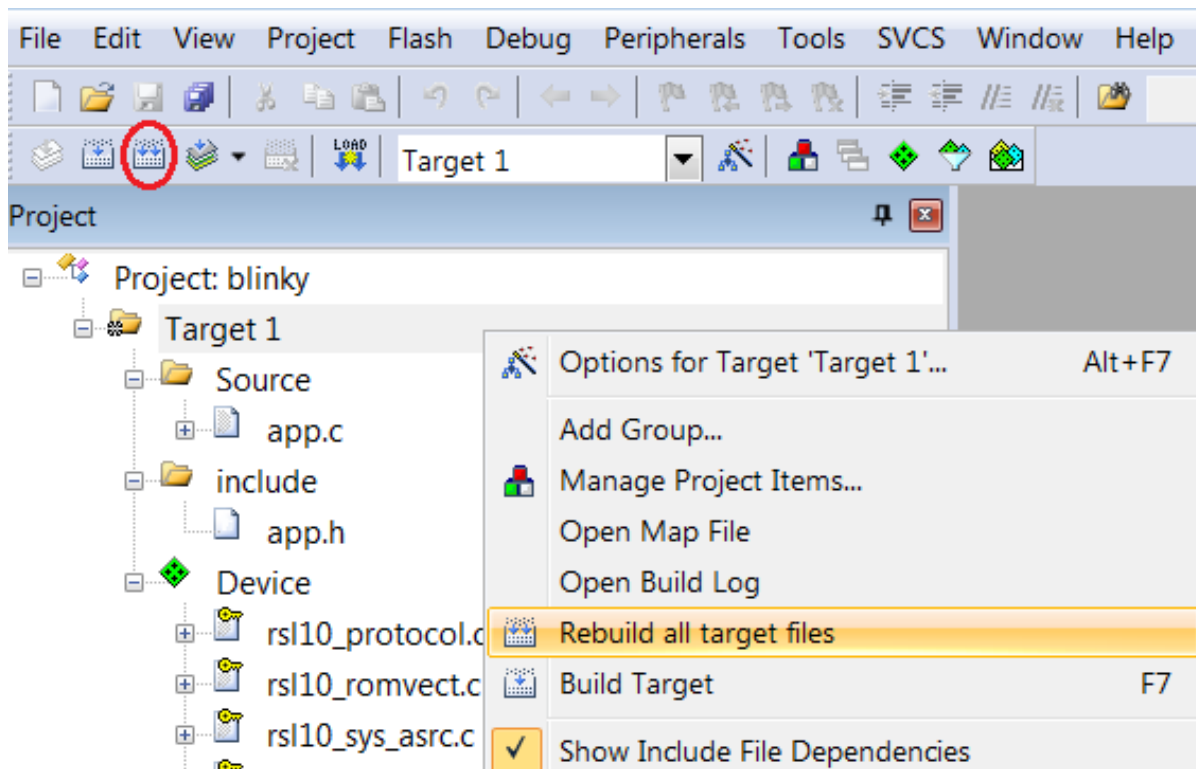

Figure 22. Starting to Build a Project in the Keil μ Vision IDE
1. Right click on **Target 1** and choose **Rebuild all target files**. Alternatively, you can use the icon shown in the figure "Starting to Build a Project in the Keil mVision IDE" (Figure 22).